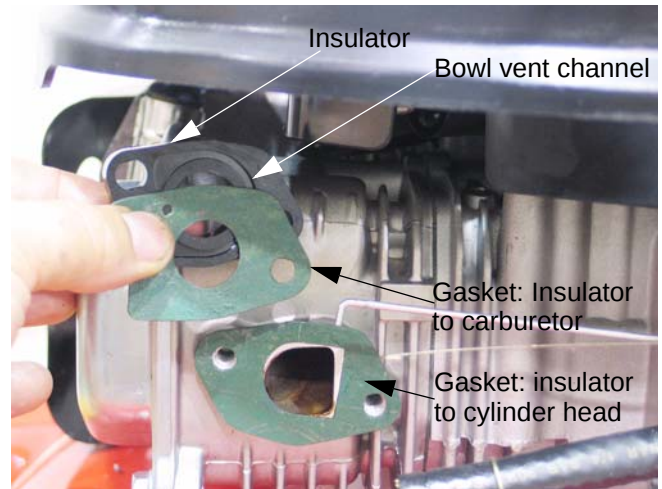

Figure 8.21
- 8.21. Between the carburetor and the cylinder head is an insulator, sandwiched between two gaskets. See Figure 8.21.